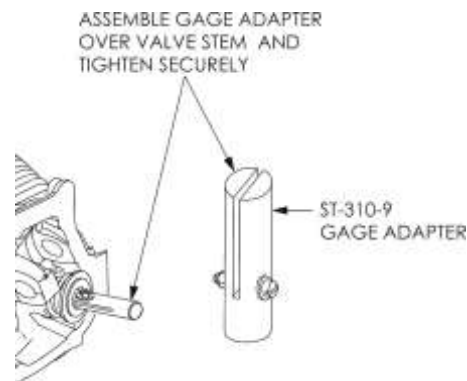

Figure 7
- (14) Install the Gage Adapter (ST-310-9) over the top of the valve stem (Figure 7). Make sure it is tight.